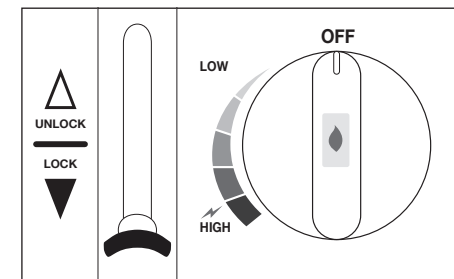

Fig. 5
5. Push the Cartridge Lock down to 'LOCK' in one firm motion (Fig. 5).